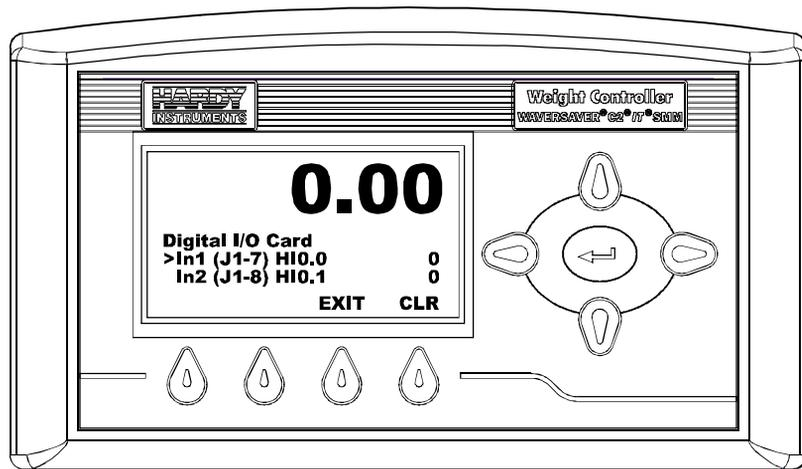

FIG. 160 DIGITAL I/O CARD/READING INPUT 1
Step 2. Press the Enter button. the Digital I/O Card Menu appears. (See Fig. 160)